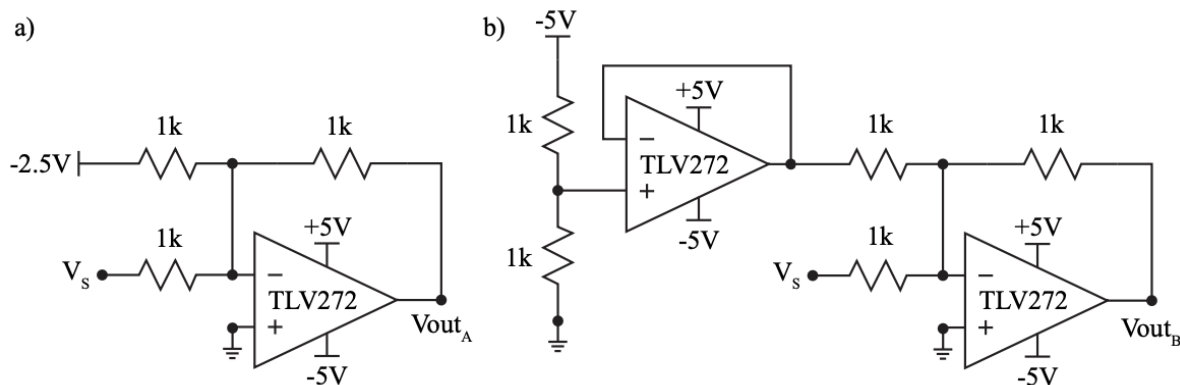

Figure 6.4: A summing amplifier used to add 2.5V to $-V_{IN}$ (a) and the same configuration where
1. Simulate the circuit in Figure 6.4 (a) using a transient analysis with a stop time of 1m (.tran 1m). Set V_S to a sine wave with a 0 V DC offset, 2 V amplitude, and a 1 kHz frequency. Save an image of the circuit and a plot of the input and output voltage.
2. Explain why the resistor divider in Figure 6.4 (b) uses -5 V instead of 5 V.
3. Practically, a 2.5 V reference may not be available for use and instead must be self-generated. Simulate the circuit in Figure 6.4 (b) using a transient analysis with a stop time of 1m (.tran 1m). Set V_S to a sine wave with a 0 V DC offset, 2 V amplitude, and a 1 kHz frequency. Save an image of the circuit and a plot of the input and output voltage.
4. Construct the circuit in Figure 6.4 (b) on a breadboard. Configure the Wavegen to generate a sine wave at 1 kHz with a 2 V amplitude and a 0 V offset. Plot the input and output on the Scope and save the circuit to demo at the start of lab. If you see clipping at your output, change the three 1k Ω resistors in the summing op amp to 33k Ω .